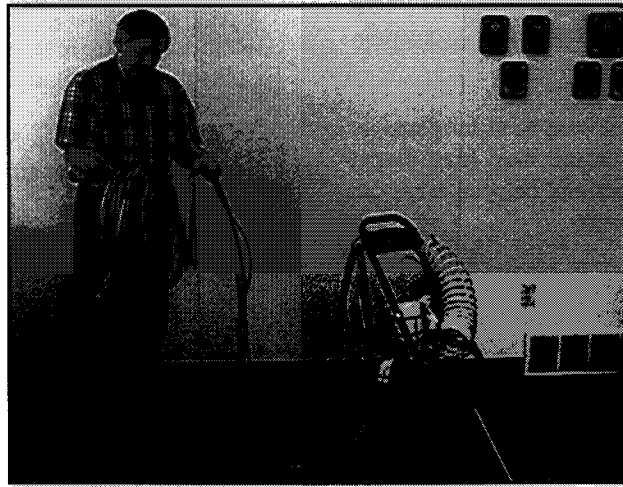

FIG.6-Feed & Uncoil Technique
- Feed & Uncoil (figure 6):** This is when you place one arm through the middle opening of the hoses and feed hose out as you walk toward the sink. To prevent kinking of hoses during operation, uncoil any loops before hooking hoses to the faucet.